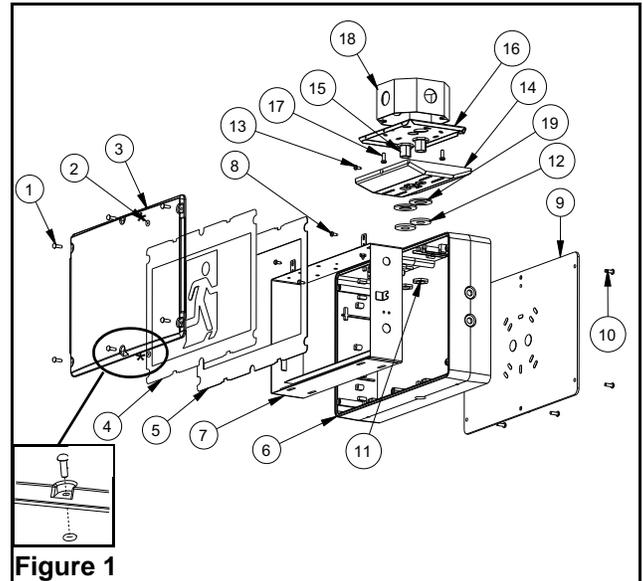

Figure 1
- e. Make sure the securement screw is accessible (see Figure1 part # 13). Use existing screws in junction box to secure canopy backplate to the junction box.
- h. Determine which holes in the frame will be used for mounting (see Figure 1 & Figure 3). Support frame with two blocks of wood, maximum one inch apart. Strike knockouts with a hammer and screwdriver. Clear holes of burrs to allow proper assembly of nipple/wire assembly.
5. Install the lens by using the 6 tamper-proof screws. The o-rings must be installed on the screw between the lens and the frame as shown in Figure 1.